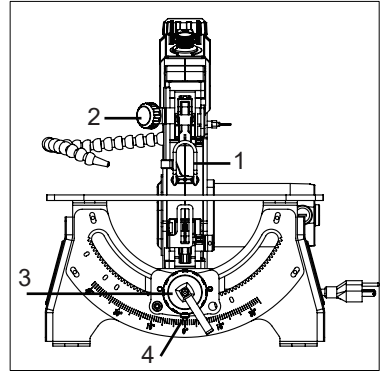

FIGURE 5
2. Loosen the blade guard height adjustment knob (Fig. 5, 2), move the blade guard foot (1) to the highest position, and retighten the knob.
3. Tilt the table to the desired angle by loosening the table bevel lock knob (3). Move the table to the proper angle using the degree scale and the pointer (4).
4. Tighten the table bevel lock knob (Fig. 5, 3).